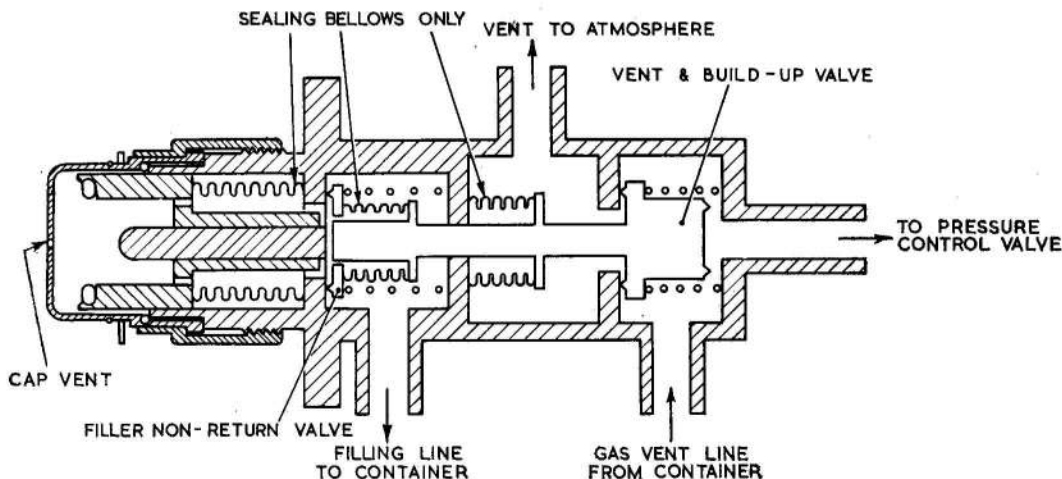

Fig. 3. Typical fill and vent valve in build-up position
5. When the liquid oxygen replenishing hose is removed, the central spindle of the fill and vent valve moves outwards (fig. 3) under its spring loading, closing the fill non-return valve and the vent valve and automatically causing a pressure raising process in the system by opening the build-up valve.